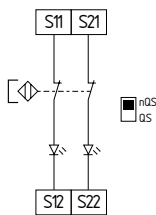

Fig. 14
**Dual-channel control of magnetic safety switches according to IEC 60947-5-3 (see Fig. 14)**